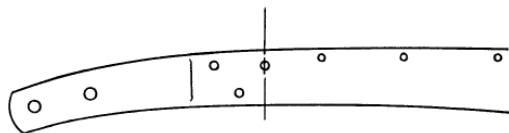

Figure 1- Axle Centerline
4. Mark the axle centerline. On the 1934 Ford it is located in line with the center of the rear upper fender bracket hole. Use the center of this hole to mark a line across the top of the frame rails, see **Figure 1**.